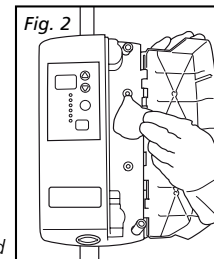

Fig. 2
- Wipe exterior casing including inside hinged cover with an approved disinfectant wipe. (Fig. 2)